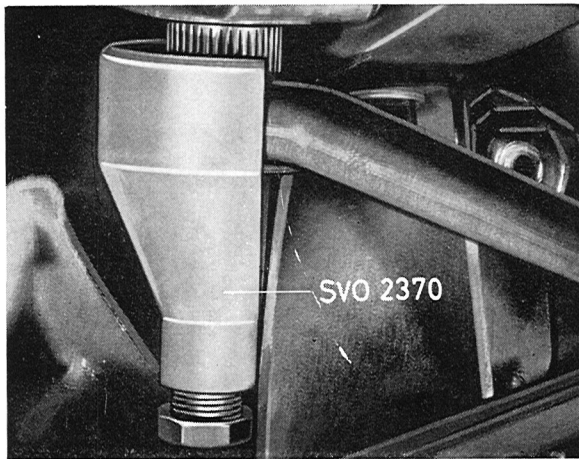

Fig. 6-54. Removing pitman arm
3. Remove the lock nut for the pitman arm. Pull off the pitman arm with 2370. When the puller has been placed there, turn the wheel completely to the left (Fig. 6-54).